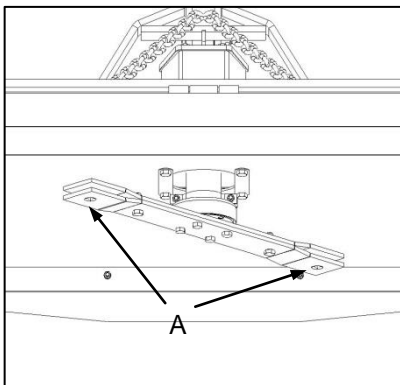

Fig. 7
- ✔ Check blade mounting holes (Fig. 7-A / 8-A) for signs of wear, elongation or fractures. In the event of any observed defect do NOT attempt a repair, but provide immediate replacement of the defective disc.
- ✔ Gaan lemmonteringsgate (Fig. 7-A / 8-A) na vir tekens van slytasie, vergroting of breuke. In die geval van enige waargenome defek, moet NIE probeer om dit herstel nie, maar vervang die defekte skyf onmiddellik.